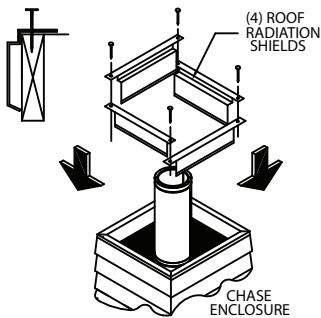

Figure 11
11. Install Roof Radiation Shields: Roof Radiation Shields provide protection for roof or chase framing members. **Note: Roof Radiation Shields do not allow for a reduced clearance to combustibles.** Clearance to combustibles must be a minimum of 2-inch away from the chimney pipe. Install Roof Radiation Shields at either the top of the chase or where the chimney penetrates the roof, whichever is the top of the installation. Roof Radiation Shields are built with a 1/2-inch air gap standoff from the joist face (*Fig. 11*). The corners of the Roof Radiation Shields overlap each other to ensure proper position. Secure the Roof Radiation Shields to the top of the framing members using screws or nails in the corners (*Fig. 11*). If framing members are further away from the chimney than 2inches, center the Roof Radiation Shield to the chimney on the framing member and secure in place with screws or nails.